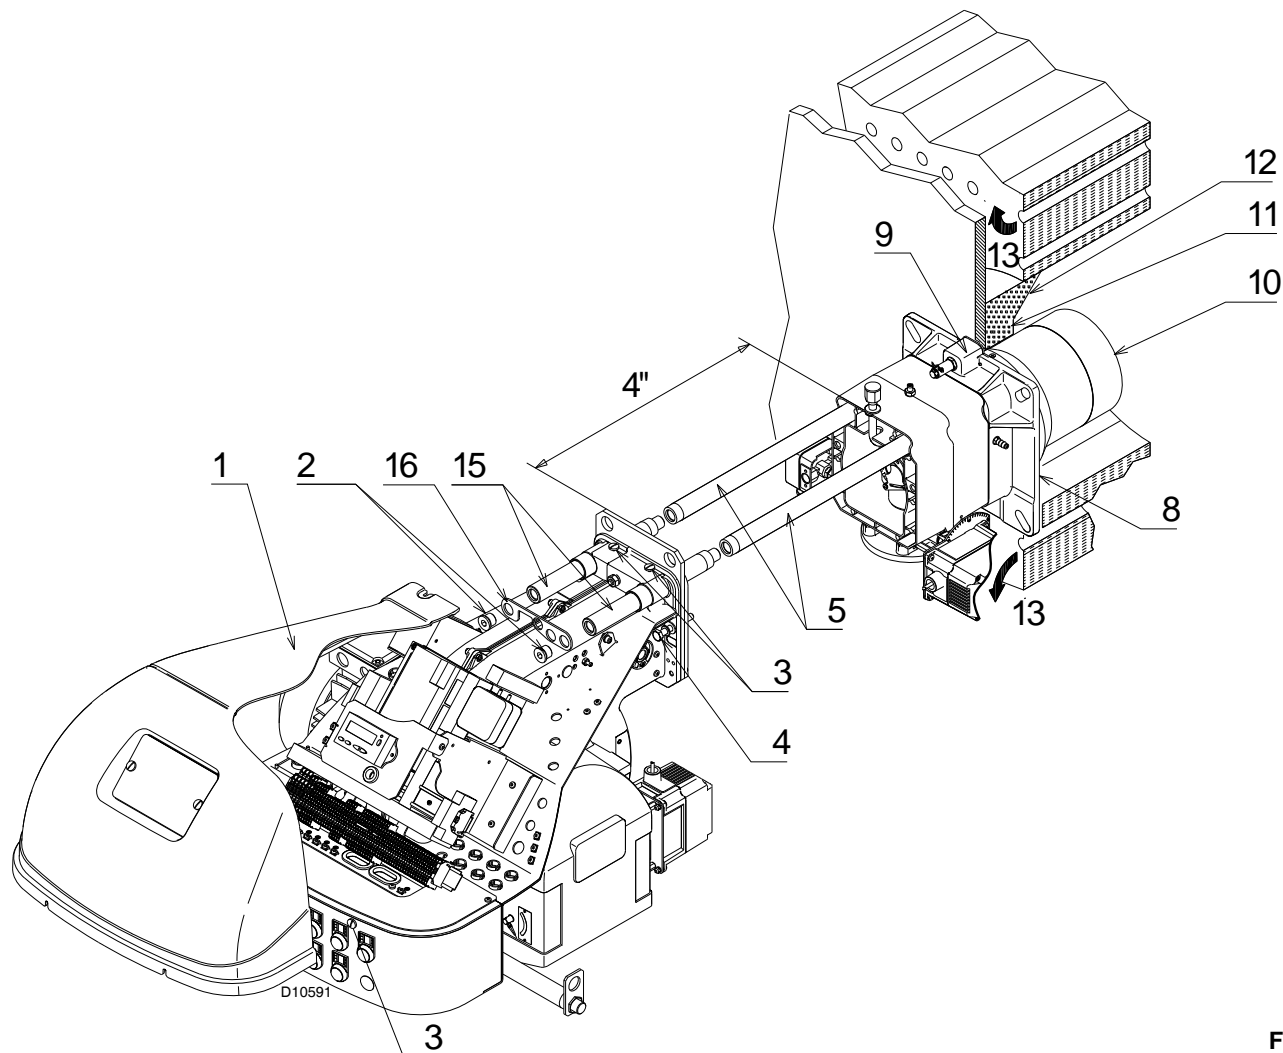

Fig. 11
- For boilers with front flue passes 13)(Fig. 11) or flame inversion chambers, a protection in refractory material 11) must be inserted between the boiler refractory 12) and the blast tube 10). This protection must not compromise the extraction of the blast tube.
- For boilers with a water-cooled frontal, a refractory lining is not necessary 11)-12) (Fig. 11) unless expressly requested by the boiler manufacturer.
Secure the burner to the boiler, fixing the flange 9)(Fig. 11) to the boiler plate and interposing the insulating gasket 8).
Detach the combustion head from the burner, (Fig. 11):
- install the extension bars 15) Fig. 11, page 19 and re-screw the screws 2) including the safety plate 16);